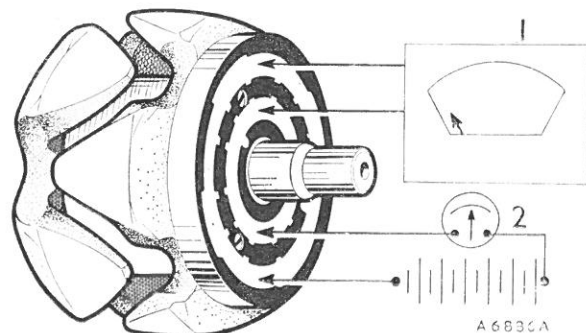

Fig. N.10
- (a) Test the rotor windings by connecting an ohmmeter, or a 12-volt battery supply and ammeter in series, between the slip-rings (Fig. N.10). The resistance or current of the field coils should be as given in 'GENERAL DATA'.